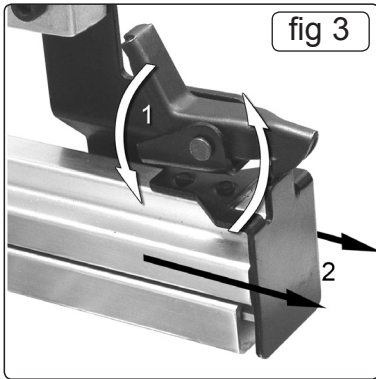
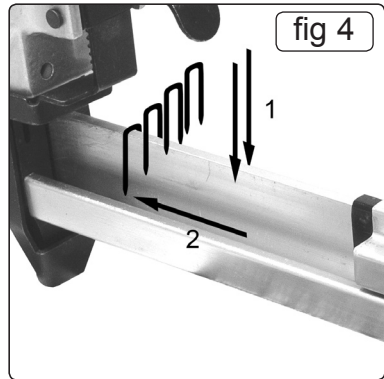

fig 3
fig 4
- 4.1.2 Load the magazine before connecting the airline. To open the magazine, release the magazine latch (fig 3), be wary of spring release on the magazine. Load the staples into the loading slot with the tips facing downwards, so the staples straddle the central ridge (fig 4).